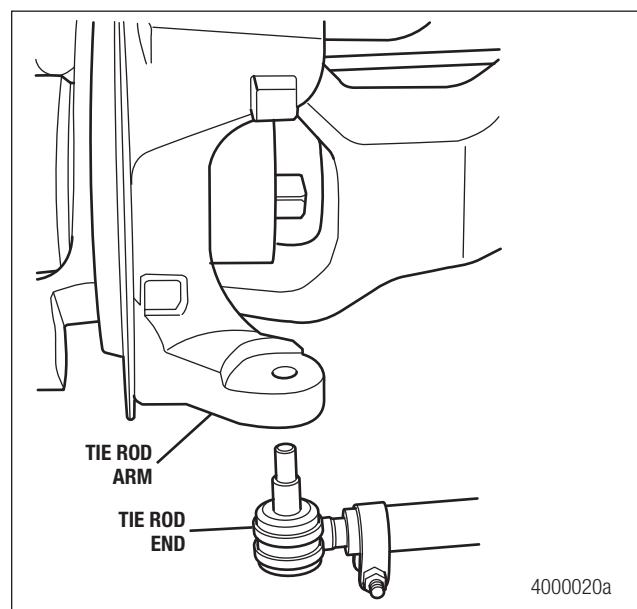

Figure 4.1
2. Disconnect the cross tube assembly from the tie rod arms. Use a tie rod end puller, if available, to separate the tie rod end from the tie rod arm. Push the stud for the tie rod end completely through the tie rod arm. To assist this process, partially reinstall the nut with the castle side down until it is flush with the top of the threaded shaft, and then strike the nut/shaft with the mallet to loosen the stud. Use a soft mallet, if necessary, to drive the stud through the tie rod arm. Figure 4.1.